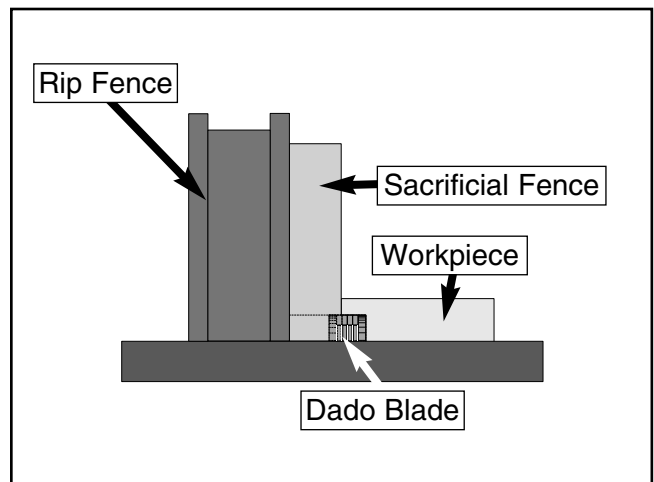

Figure 41. Rabbet cutting.
5. If rabbeting along the length of your workpiece, adjust the distance between the fence and the outside edge of the blade to suit your needs as shown in **Figure 41**. When cutting across the wood grain, use the miter gauge as a guide while rabbeting. **Remember:** Never use the fence as a stop in conjunction with your miter gauge.